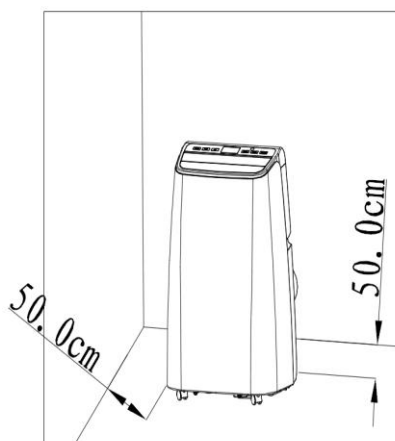

Figure 4
- 1) Move the machine with installed heat pipe and fittings before the window, and the distance between the body and walls or other objects shall be least 50 cm (as shown in Figure 4).